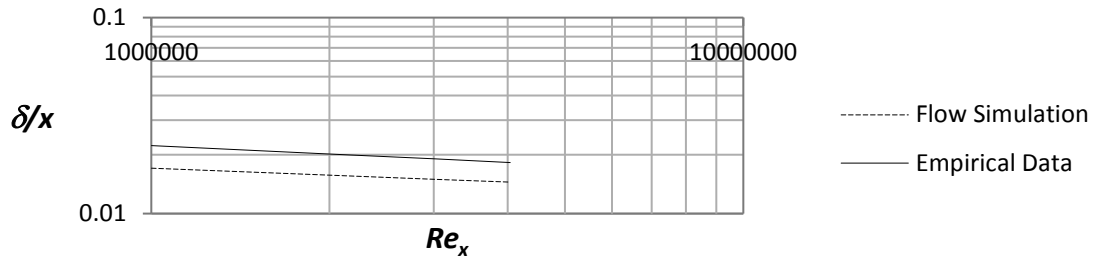

Figure 2.30b) Boundary layer thickness for turbulent boundary layers at $Re_x = 10^6 - 4.04 \cdot 10^6$
Place the file “**graph 2.30b)**” on the desktop. Repeat step 24 and choose the sketch $x = 0.2, 0.4, 0.6, 0.8$ m and check the box for **Velocity (X)**. Rename the xy-plot to **Turbulent Boundary Layer Thickness**. An Excel file will open with a graph of the boundary layer thickness versus the Reynolds number; see figure 2.30b).